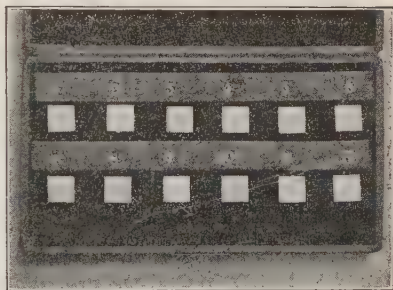

FIGURE 89. — DENSITY CUBES.
**59. Density.** — Iron is heavier than tin and lead is heavier than iron. By this we mean that, if we take equal-sized pieces of the three materials (Figure 89), the lead has the greatest weight. So we conclude that there are more pounds per cubic foot (or grams per cubic centimeter) of lead than of iron or of tin. That is, the lead has the greatest *density*, for *density is the mass per unit volume of a substance*.